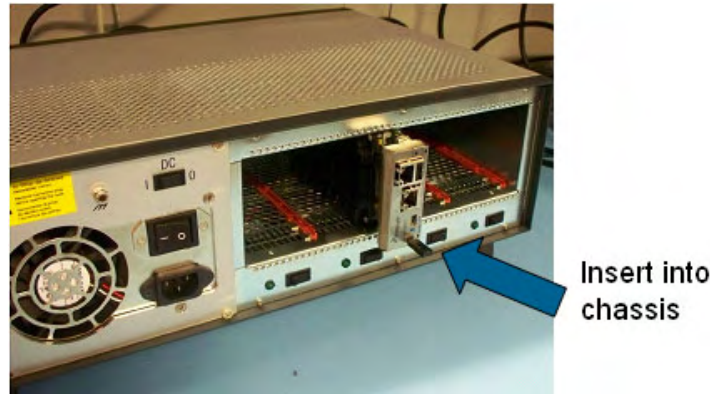

Figure 2. Inserting AMC into Chassis
1. Freescale recommends running the AMC in an ATCA, MicroTCA, picoTCA chassis, or equivalent to deliver the correct power and air flow to the board. The board should be inserted into the carrier chassis as per the specific carrier instructions as shown in Figure 2.